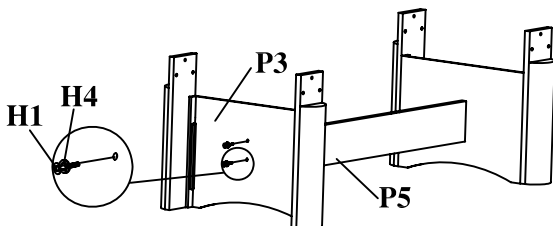

Figure 3
- 3: Attach the mid support panel **P5** to the leg panel **P3** using 3/16 bolts **H1** and flat washers **H4**, as shown in **FIGURE 3**.